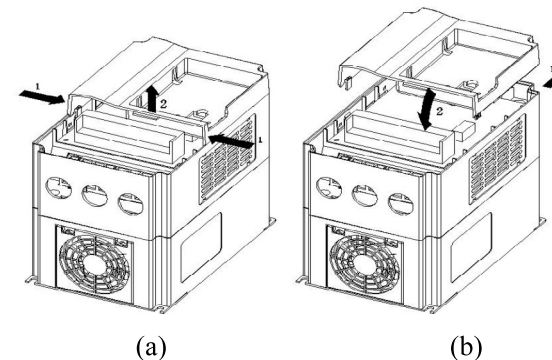

Figure 2-5 Disassembly and assembly of upper panel
(1) Disassembly of upper panel: As shown in Figure 2-5 (a), make an effort toward direction 1 to press the two sides of console support, in the meantime, please press direction 2 to lift console support lower part.
(2) Assembly of upper panel: As shown in Figure 2-5 (b), console support head two cards hang up to block from the direction 1 the hull body (2 places), press to keep toward direction 1 immediately after hearing “click” voice.